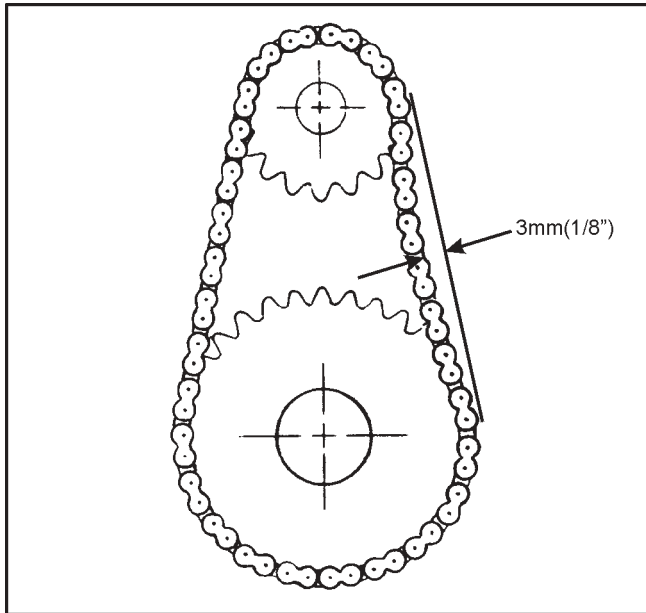

Figure 7-15. Measuring idler chain deflection
To check the idler chain adjustment, push the slack side of the chain and measure the amount of chain deflection (Figure 7-15). Adjust the idler chain tension if deflection is more than 3mm (1/8").
3. Turn the vertical adjustment bolts counter-clockwise to raise the power pack and tighten the idler chains. The idler chains are properly adjusted when the deflection measures 3 mm (1/8"), (Figure 7-15).